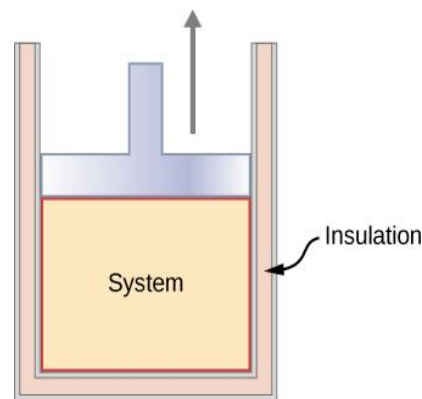

Figure 10 – An insulated chamber diagram
Theory: The heat flow (Q) is the amount of heat that goes into or out of the process during it, however due to an adiabatic process a process in which no heat flows into or out of it, the chamber in which the process occurs has to be entirely thermally insulated (Figure 10). However, heat could still flow in from component that causes the process. In the case of a piston, it would have to be moving at an extremely fast rate in as to not allow for heat to pass through during its the rise and descend. Thus, an adiabatic process is the opposite of an isothermal one in that the movement of the gas has to occur at a very fast rate while in an isothermal it occurs at a very slow one. However, as stated earlier, although no heat flows in, all other parameters – including temperature – could still change according to the movement of the gas within the chamber.